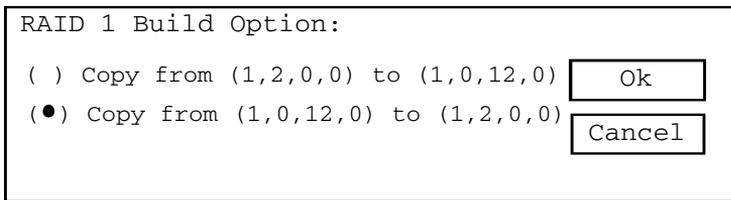

Figure 2-11 RAID 1 Build Option Window
- 5 If you are creating a RAID 1 array, the RAID 1 Build Option window appears, as shown in Figure 2-11. RAID 1 arrays are built by copying the existing data from one device to the other. Select the direction for the copy, then select **Ok**.